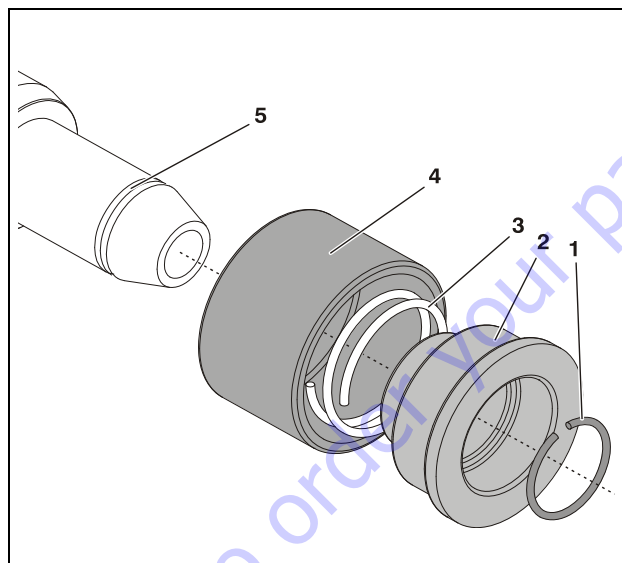

Figure 6-20. Cylinder Rod Piston - Removal
1. Reassemble the piston/compression spring/piston guide onto the end of the cylinder rod secure using the piston retaining ring. (See Figure 6-20.)